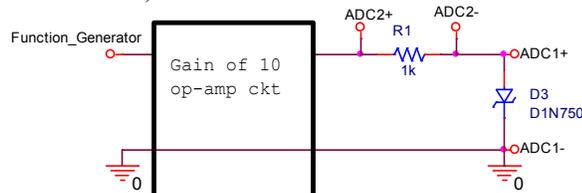

Figure D-4.
- Assemble the circuit shown in Figure D-4 on your protoboard. The Zener diode looks like the regular diode, except it should have “75” written on it. This is the same circuit as Figure A-7 with the 1N4148 replaced with the 1N750 (kit may have 1N751 instead).